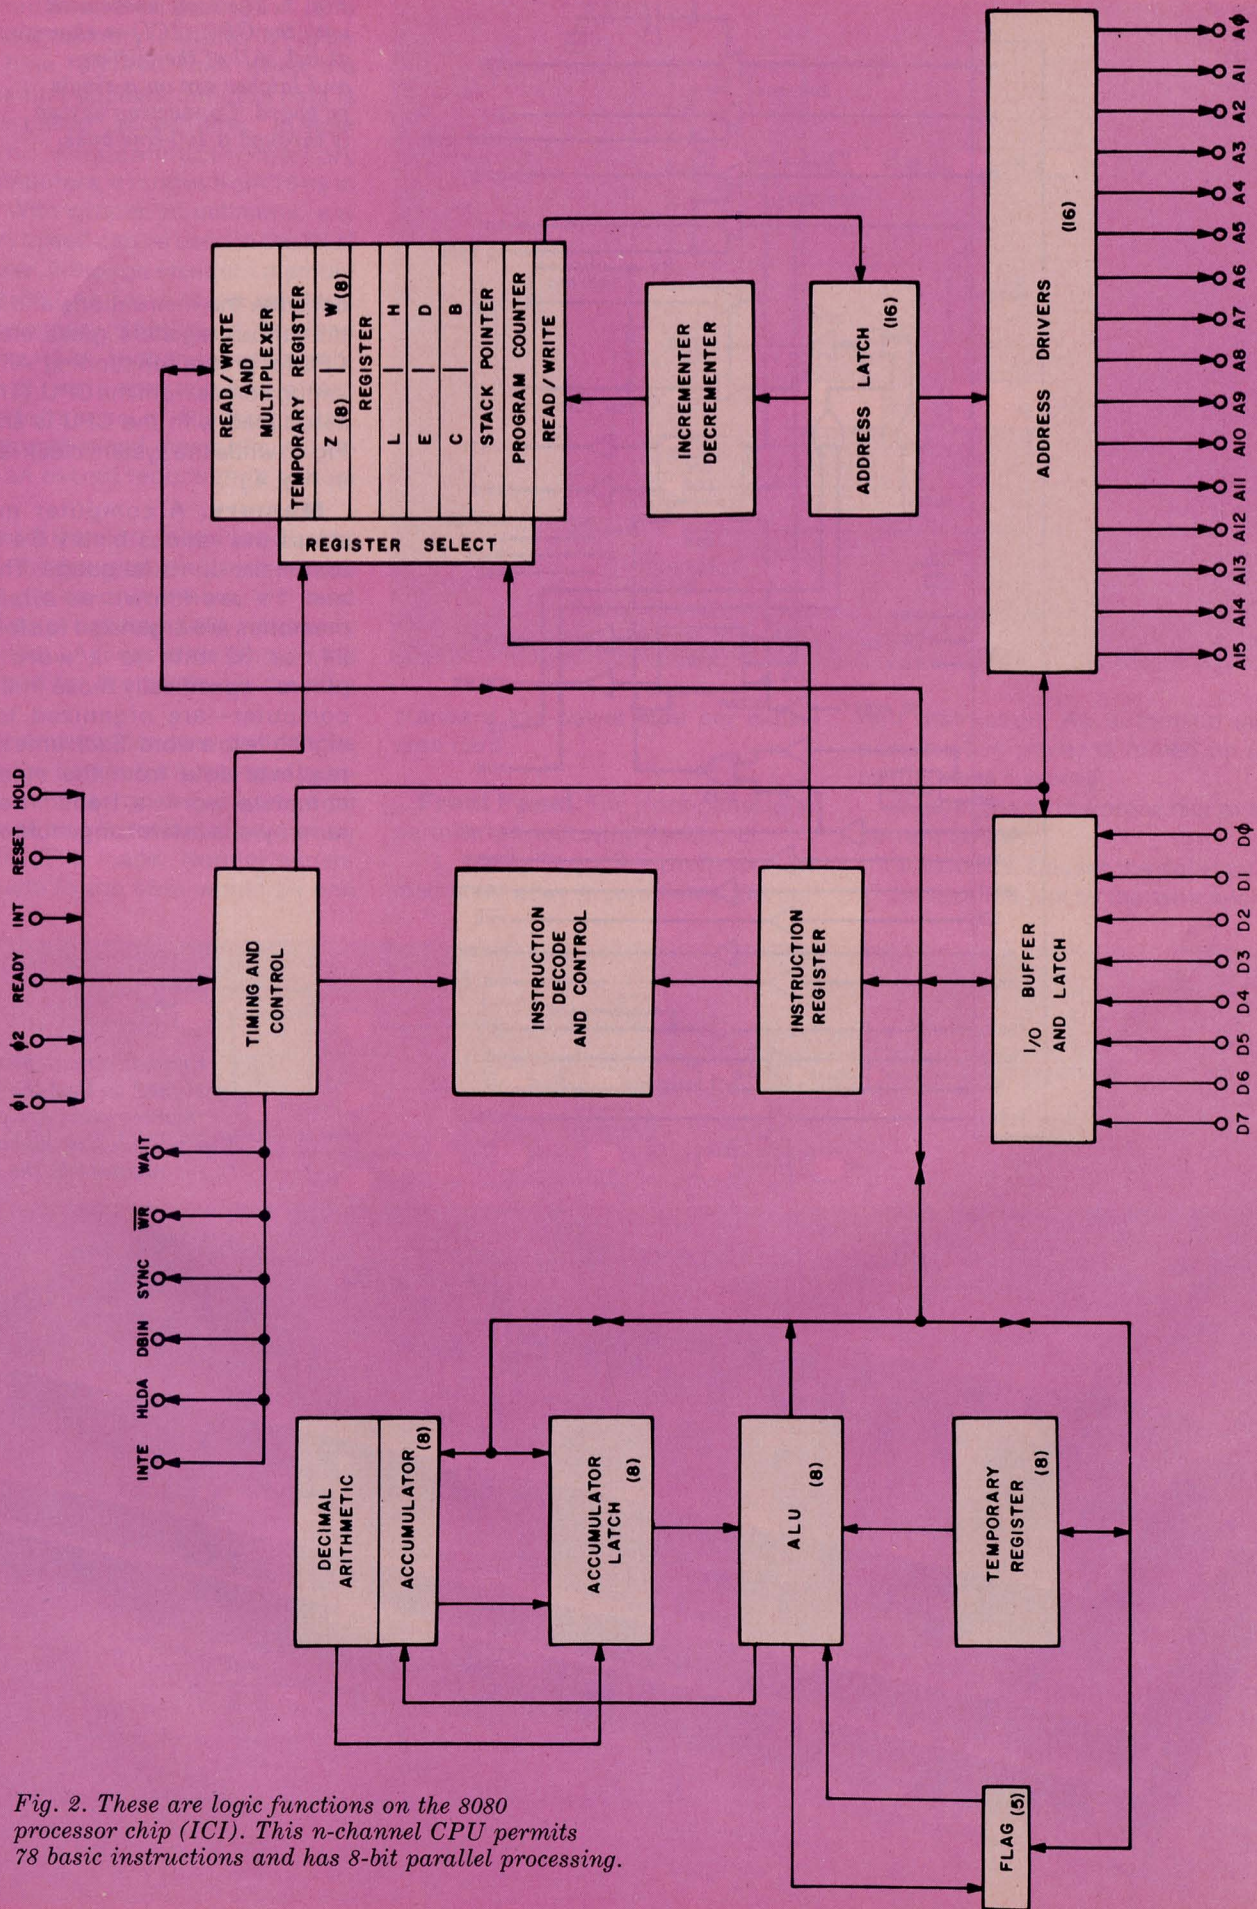

Fig. 2. These are logic functions on the 8080 processor chip (ICI). This n-channel CPU permits 78 basic instructions and has 8-bit parallel processing.
**CPU.** The heart of the computer is the CPU, or central processor unit. See fig. 2. The CPU performs all the calculations, generates system timing, and makes all decisions. Of particular importance are the decisions the CPU makes concerning what device should have access to the data buss. It makes these decisions by sending status information at the beginning of each computer cycle, telling the memory and the input/output what to expect for the rest of the cycle.